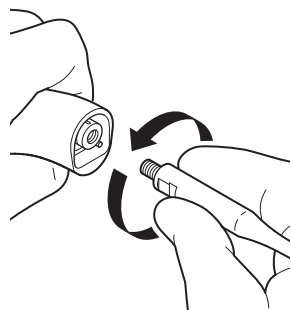

Figure 116 – Tip Removal
7. Manually remove the tip from the handpiece (Figure 116).